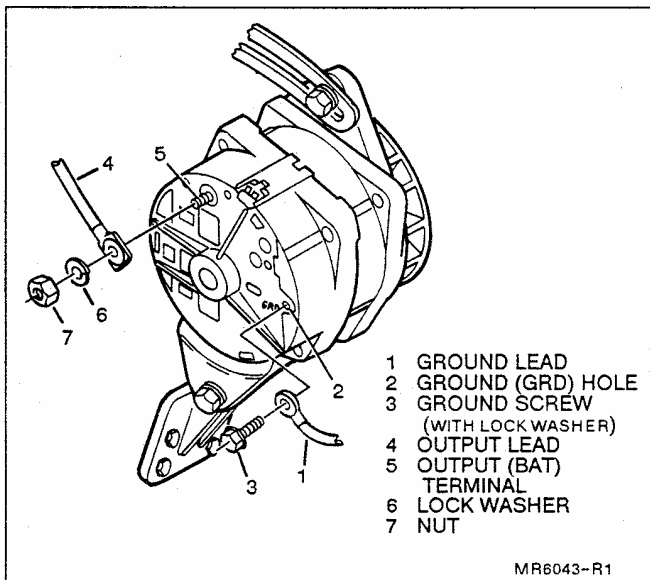

Figure 14. Installing Ground and Output Leads
- 12. Ground lead to "GRD" hole in SRE housing, with ground screw/lockwasher assy (Fig. 14).
- 13. Output lead to "BAT" terminal, using lock washer and output terminal nut (Fig. 14).